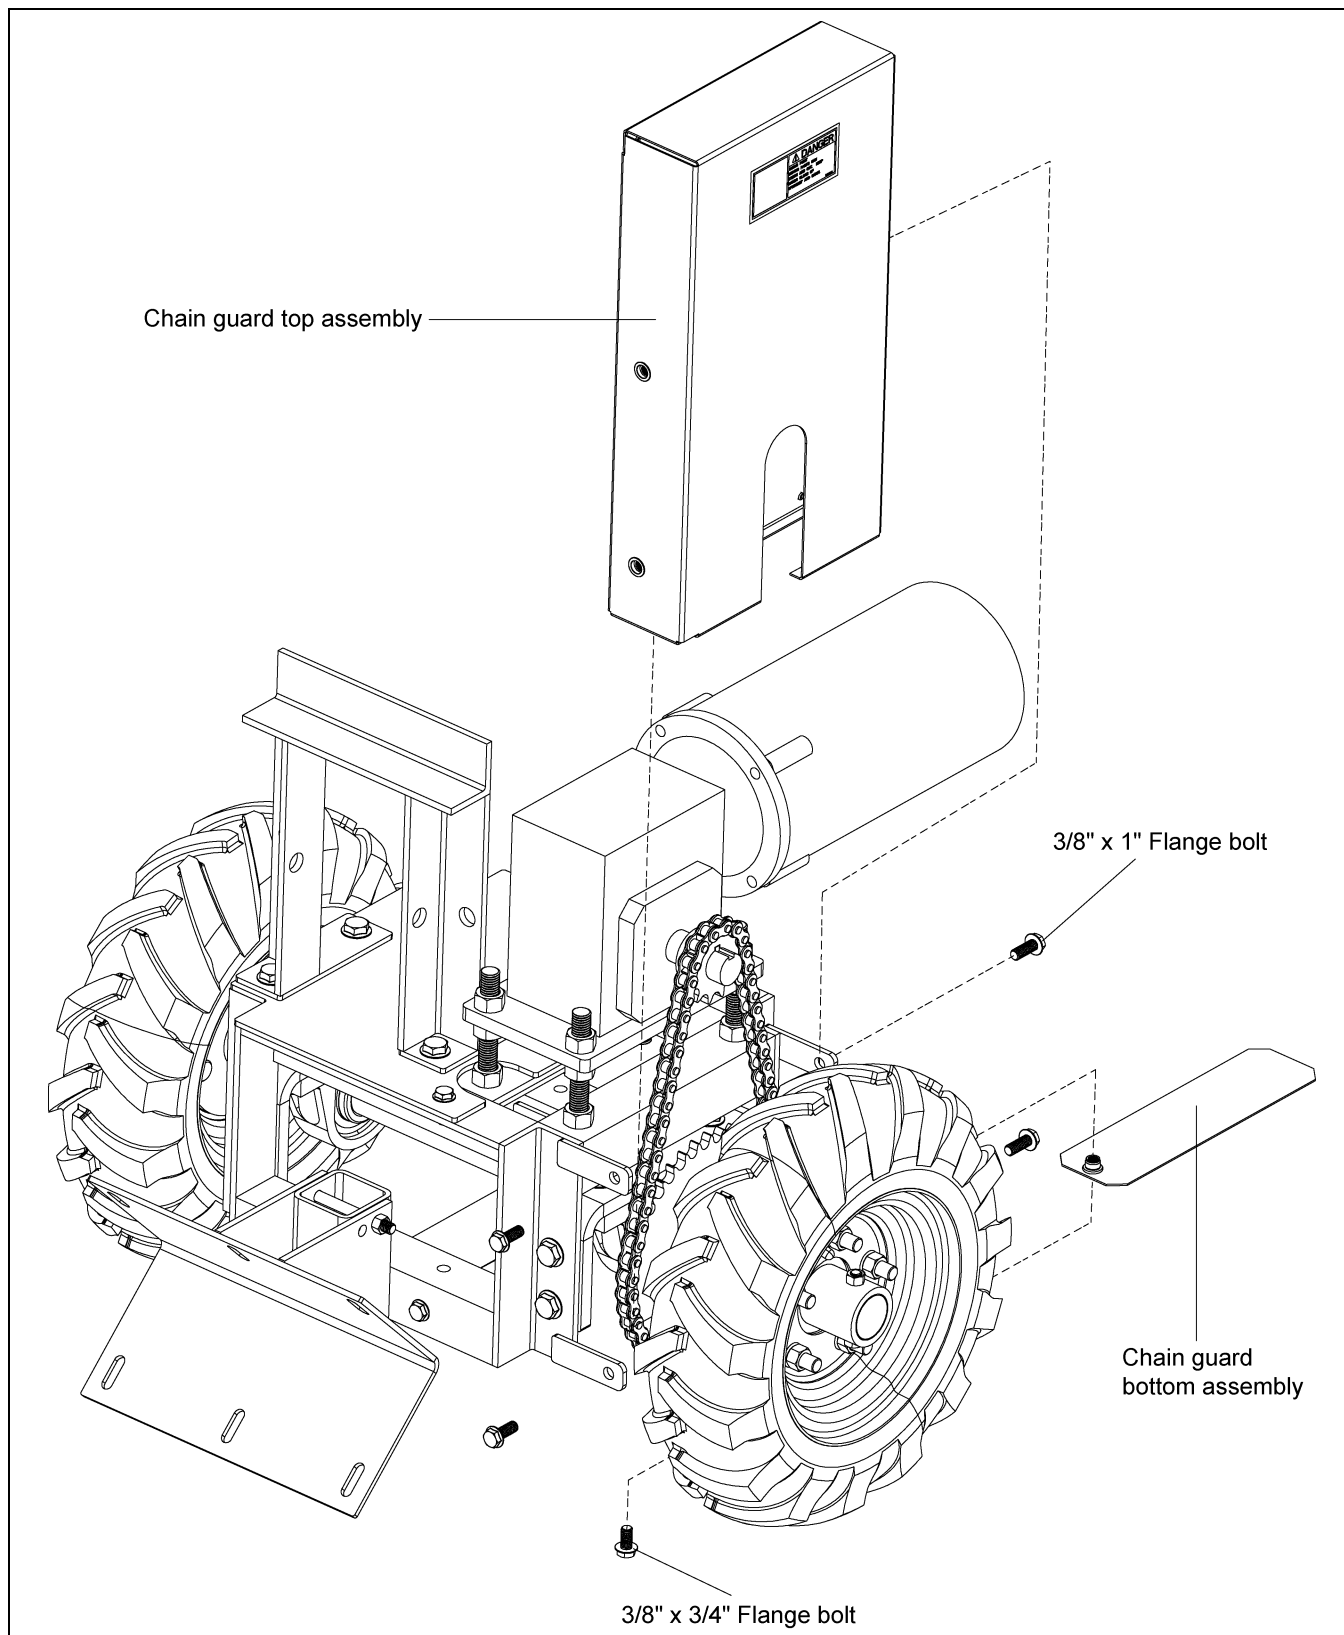

Figure 4J
20. Install the top chain guard assembly to the tractor frame using four (4) 3/8"-16 x 1" flange bolts. Slide the bottom chain guard assembly through the slot on the top chain guard and secure it with a 3/8"-16 x 3/4" flange bolt. (See Figure 4J.)